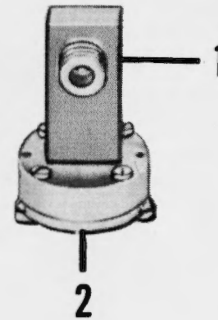

Figure 13-67. Adapter-UG-81/U and Adapter Plate-UG-163/U
- (1) 1 Adapter Plate UG-163/U. (See fig. 13-67, item 2.)